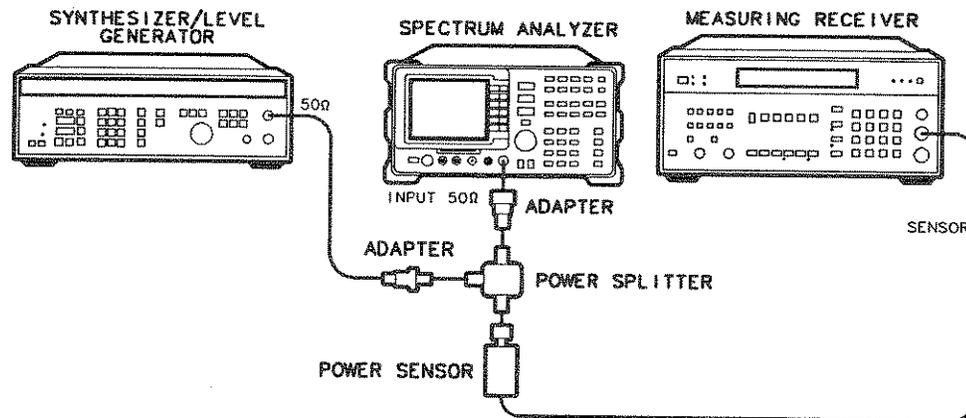

Figure 4-17. Frequency Response Test Setup (<50 MHz)
55. Connect the equipment as shown in Figure 4-17, with the power sensor connected to power splitter. *Option 026:* Connect the power splitter to the analyzer input directly.